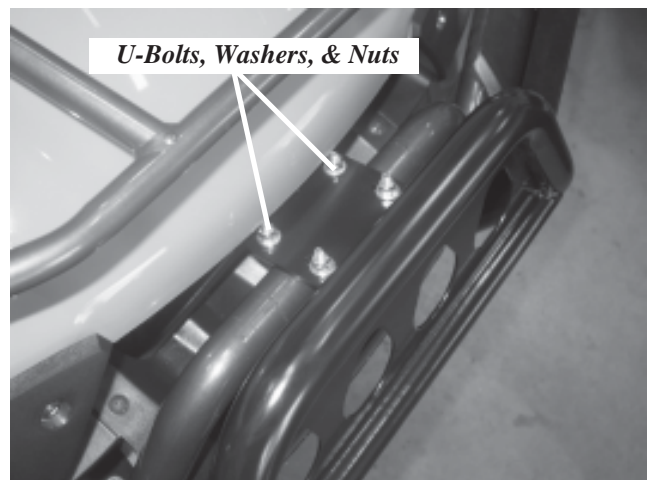

Figure 3
3. Loosely fasten the backing plate and bumper tab to the tube with the 1/4-20 x 1.5" x 2.25" u-bolts, flat washers, and lock nuts, Figure 3. Do not tighten the bolts at this time.